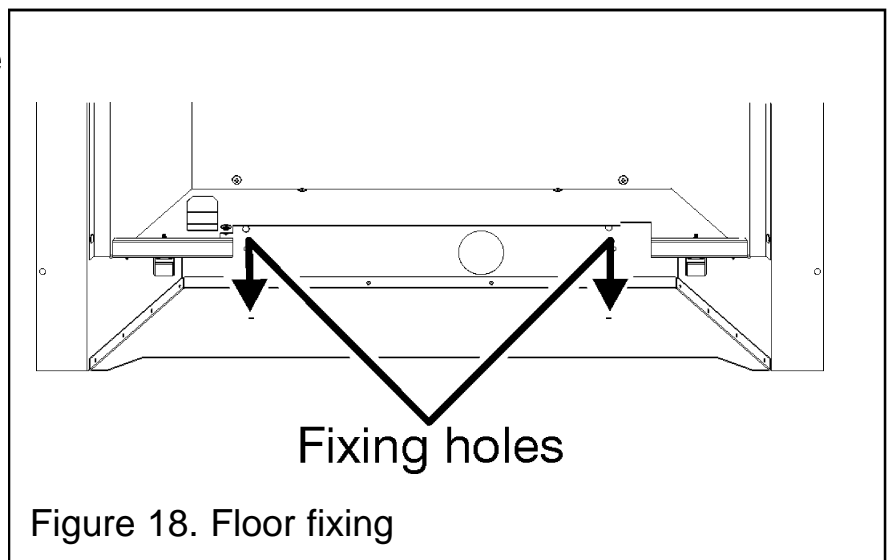

Figure 18. Floor fixing
5. Mark the base of the fireplace through the holes in the fire base (See figure 18). Remove the fire from the fireplace.